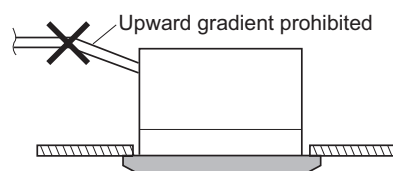

Fig. 2-187
- Do not install the pipe with an upward gradient from the connection port. This will cause the drain water to flow backward and leak when the unit is not operating. (Fig. 2-187)